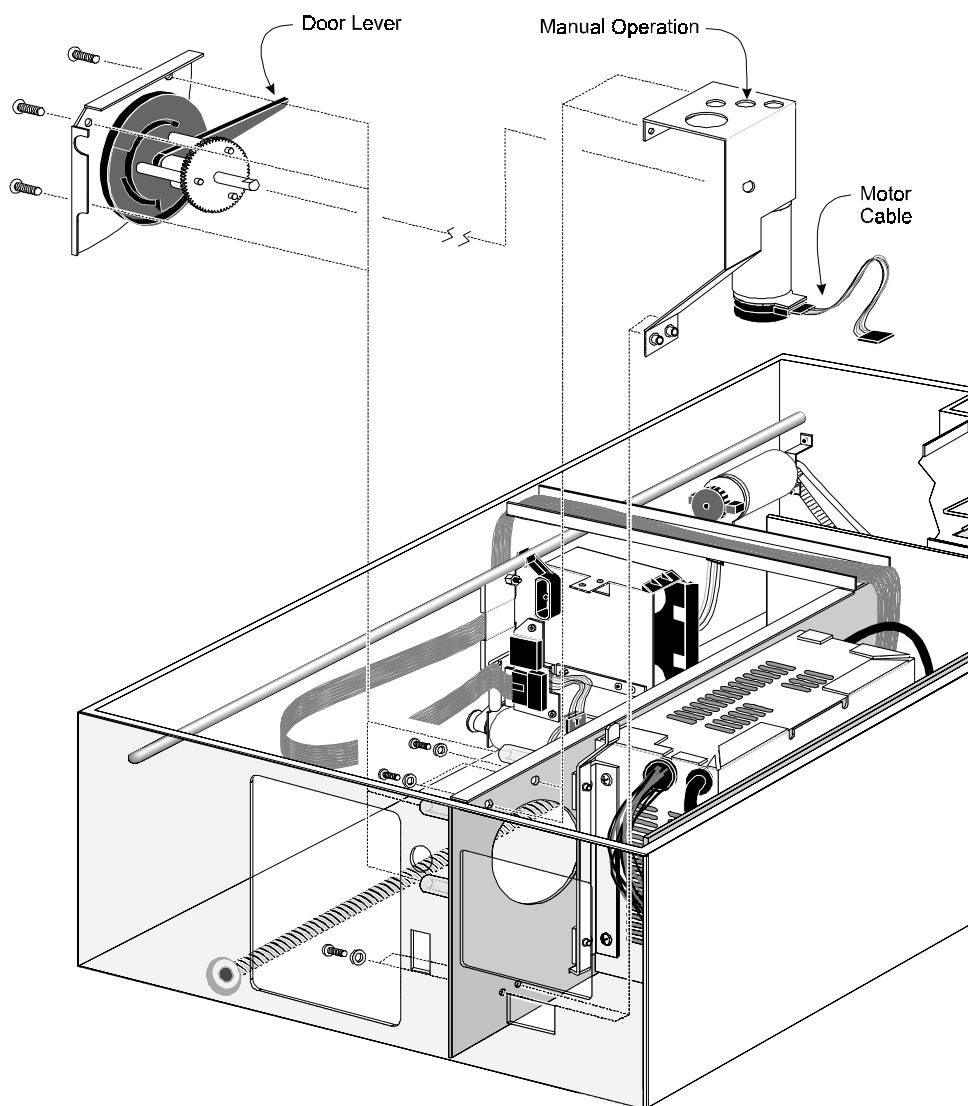

Figure 6-9 Door Opener/Magazine Lock Assembly
The Door Opener/Magazine Lock Assembly consists of two subassemblies that must be replaced as a matched pair. The two pieces are mounted on opposite sides of the bulkhead that separates the electronics compartment from the cartridge magazine. The bracket on the right of the bulkhead supports the motor for the Door Opener/Magazine Lock. The mechanism can be operated without power by inserting a straight-bladed screwdriver through a hole in the bracket identified in Figure 6-9 to engage a slotted shaft about 1 1/2" below the bracket.
Refer to Figure 6-9.
- ⇒ If the module cannot be powered on, or if the door mechanism is inoperative, operate the mechanism manually by inserting a straight-bladed screwdriver through a hole in the bracket identified in Figure 6-9 to engage a slotted shaft about 1 1/2" below the bracket. Turn the shaft clockwise until the door is fully open. Up to 20 turns may be required.
Note: The two sections of the Door Opener/Magazine Lock Assembly shown in figure 6-9 (the door opener bracket and associated parts, and the motor bracket and associated parts) are supplied as a factory-adjusted matched pair. Do not mix old and new parts.
7. Verify that the door lever is approximately parallel with the top edge of the door opener bracket, and is pointing toward the curved edge of the bracket, as shown in Figure 6-9.